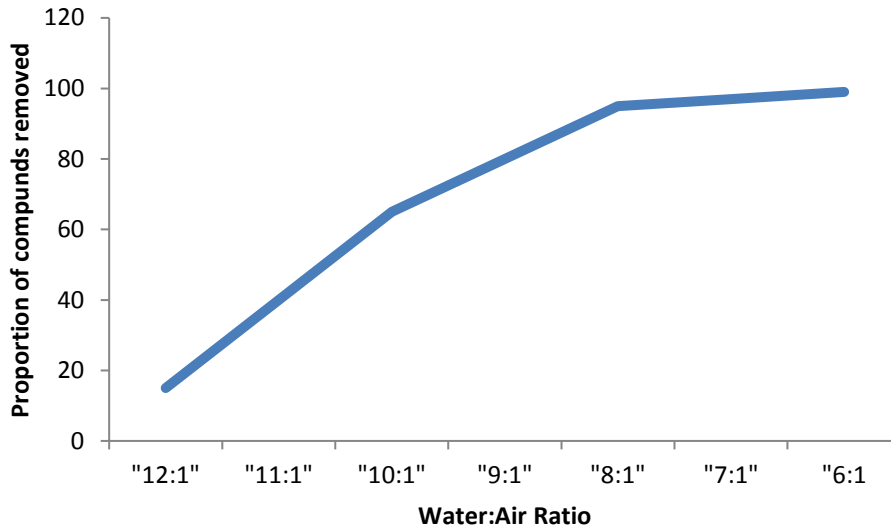

Figure 2.2. Proportion of compounds removed from water passing through a protein skimmer at different water to air ratios.
5. Based on the data in Figure 2.2, what is the best water to air ratio for protein skimmers? Consider that it takes both money and energy to inject air into the water.